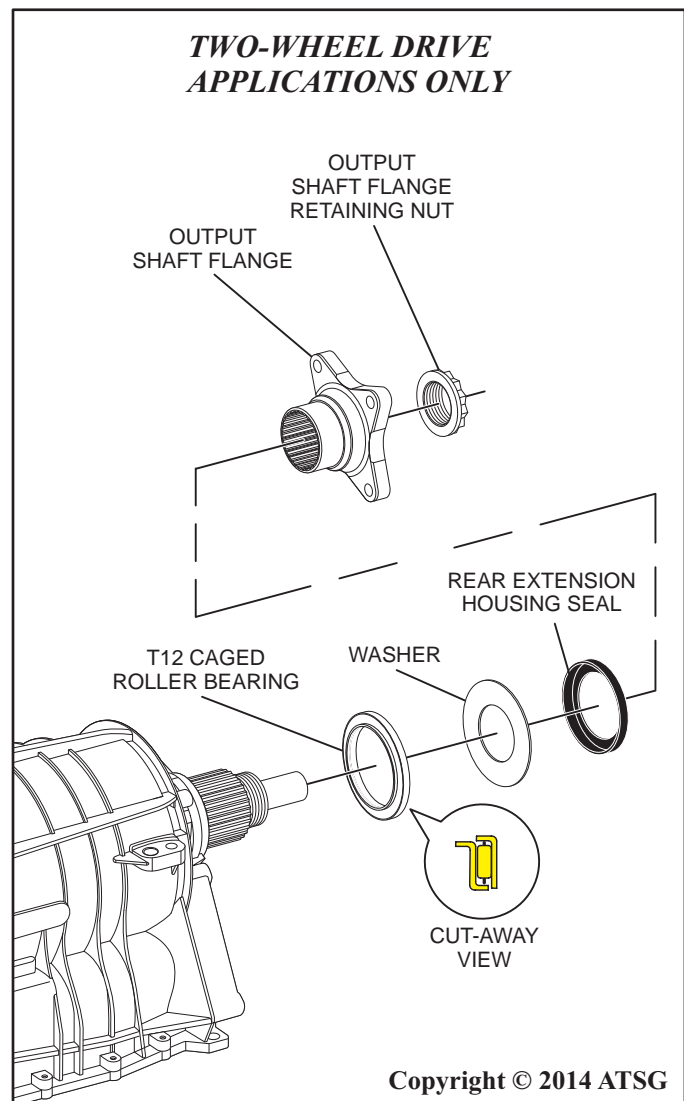

Figure 45
Remove the output shaft flange retaining nut and remove the output shaft flange as shown in Figure 45.
23. Remove the rear extension housing seal, the anti-click washer and the T12 caged roller bearing as shown in Figure 45.